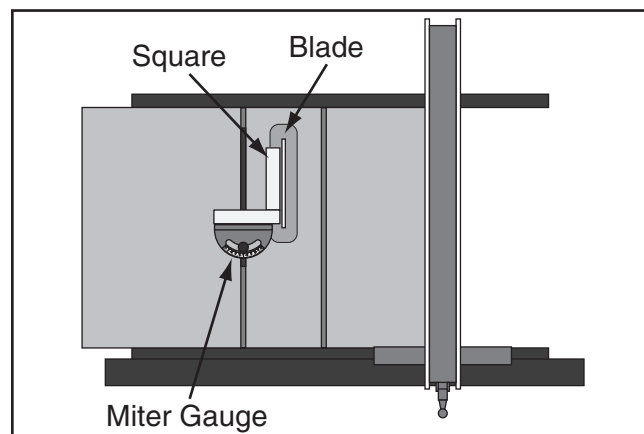

Figure 123. Checking 90° stop on miter gauge.
4. Place square evenly against face of miter gauge and blade, as shown in **Figure 123**.